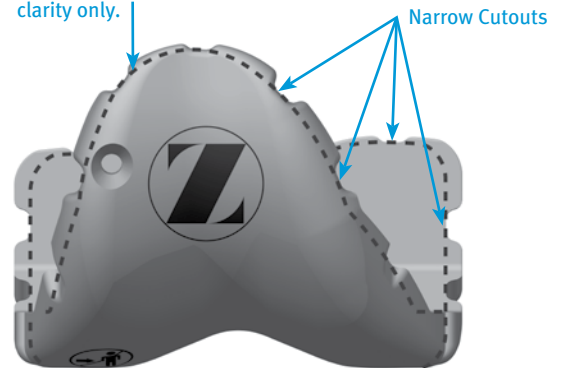

Fig. 25b
- Femoral sizes are provided in two profiles, Standard and Narrow. The Standard femoral provisionals have intermittent cutouts around the periphery, with the inner dimension representing the outer profile of the Narrow femoral implant and the outer dimension representing the outer profile of the Standard femoral implant (Fig. 25b). Care should be taken to use the appropriate Standard or Narrow implant as is related to side (left or right) and size based on the provisional fit and ROM provided during the trialing phase.